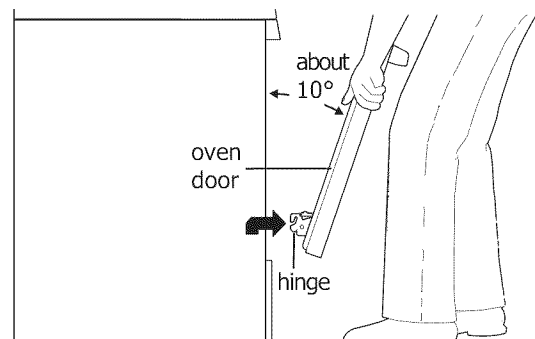
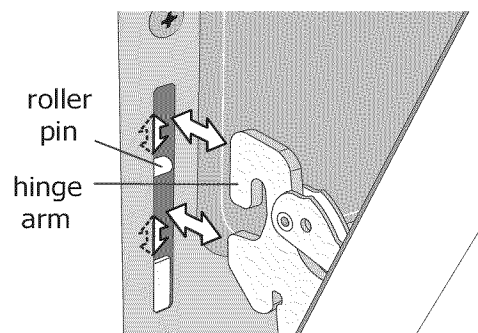

Figure 59: Holding door for removal
Figure 60: Location of hinge arm and roller pin
3. Firmly grasp both sides of oven door along the door sides. Do not use the oven door handle (See Figure 59).
5. Lift the oven door hinge arms over the roller pins located on each side of the oven frame (See Figure 59).
1. Firmly grasp both sides of oven door along the door sides. Do not use the oven door handle (See Figure 59).
2. Holding the oven door at the same angle as the removal position (See Figure 59), seat the hook of the hinge arm over the roller pins located on each side of the oven door frame (See Figure 60). The hook of the hinge arms must be fully seated onto the roller pins.